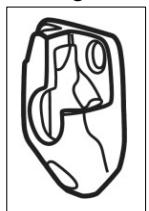

Fig. 1-5
(5) Ensure bracket orientation is correct, see Fig 1-4 shows driver side and Fig 1-5 shows passenger side.